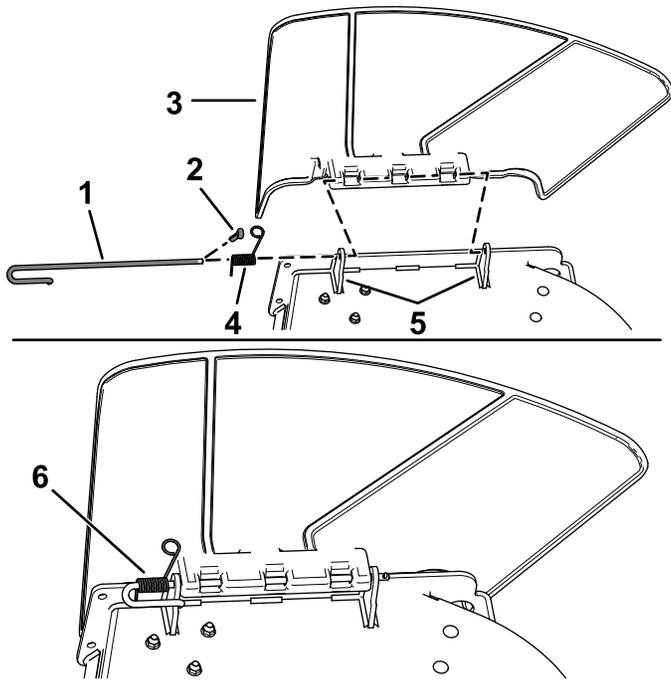

Figure 6
- Disengage the spring from the notch in the deflector bracket and remove the cotter pin (CE models only), slide the rod out of the welded deck brackets, spring, and discharge deflector (Figure 6).
2. Remove the deflector (Figure 6).